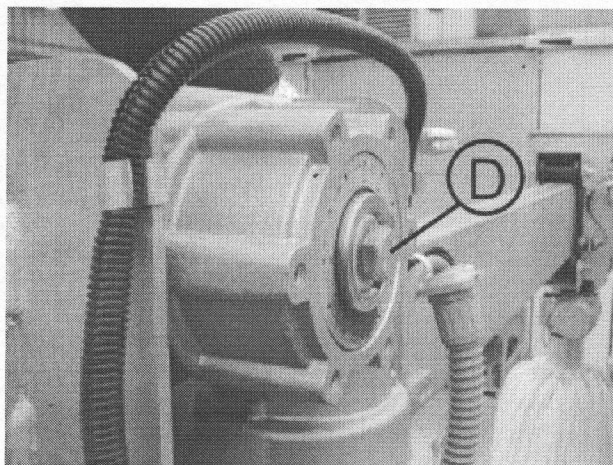

Fig. 023
7. Unscrew retaining screw (D) of the driving axle and finally screws it back again without washer (Fig. 023)